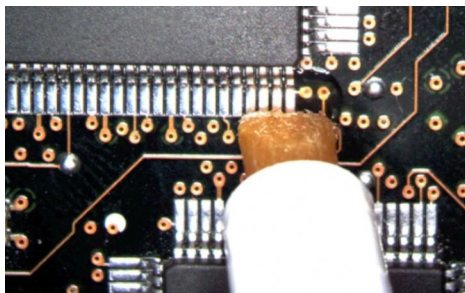

Figure 33 Applying Flux
- 1 Apply flux to your target leads as shown in **Figure 33**.